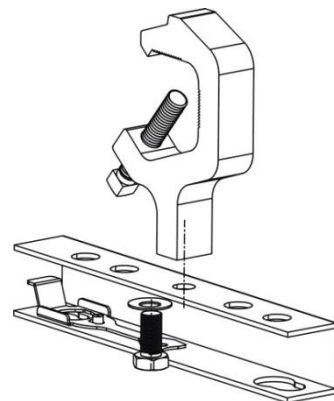

Figure 2-2: Truss Hook Installation
Step 1. Install truss hooks on two provided truss hook brackets as required as shown in **Figure 2-2**.